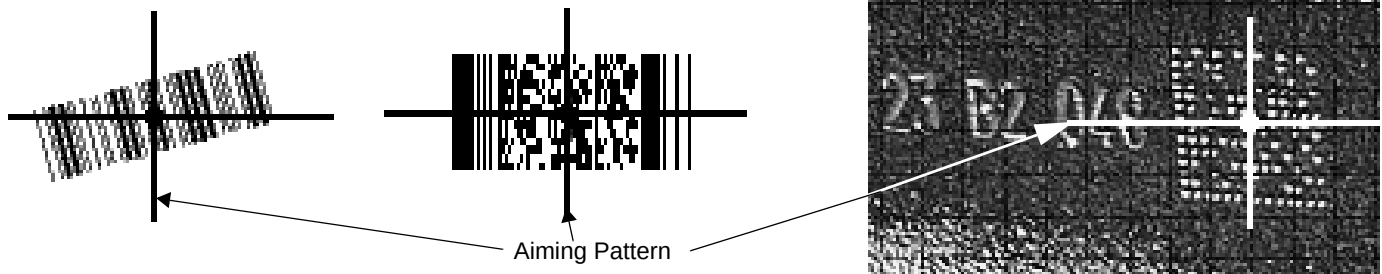

Figure 2-3 Scanning Orientation with Imager Aiming Pattern
- ✓ **NOTE** Scanning Direct Part Mark (DPM) bar codes with the DS3578-DP20005WR digital scanner: Due to the reflective nature of some surfaces used with DPM bar codes (see Figure 2-3), it may be necessary to tilt the scanner at an angle relative to the target (Motorola recommends 25-45 degrees). For example, when scanning a 15 mil dot peen Datamatrix bar code marked on an aluminum surface with the DS3578-DP20005WR, present the target between two and three inches from the nose of the scanner, and tilt the scanner at a 30 degree angle.